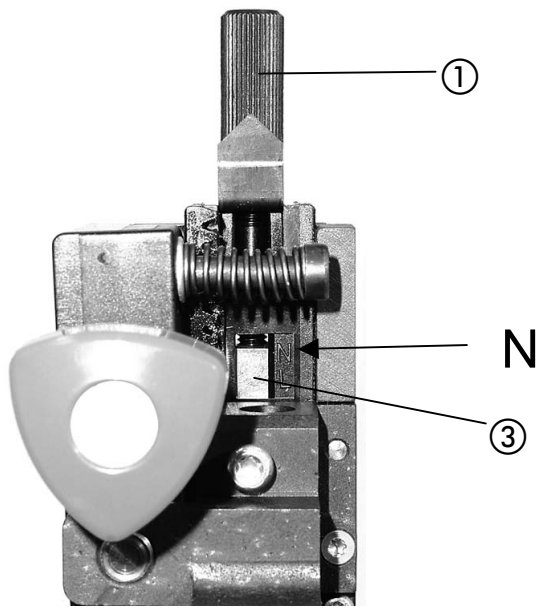

Fig. 12
- Fig. 12 -
- Begin your adjustment by turning the knob ① to the center of the “N” mark.